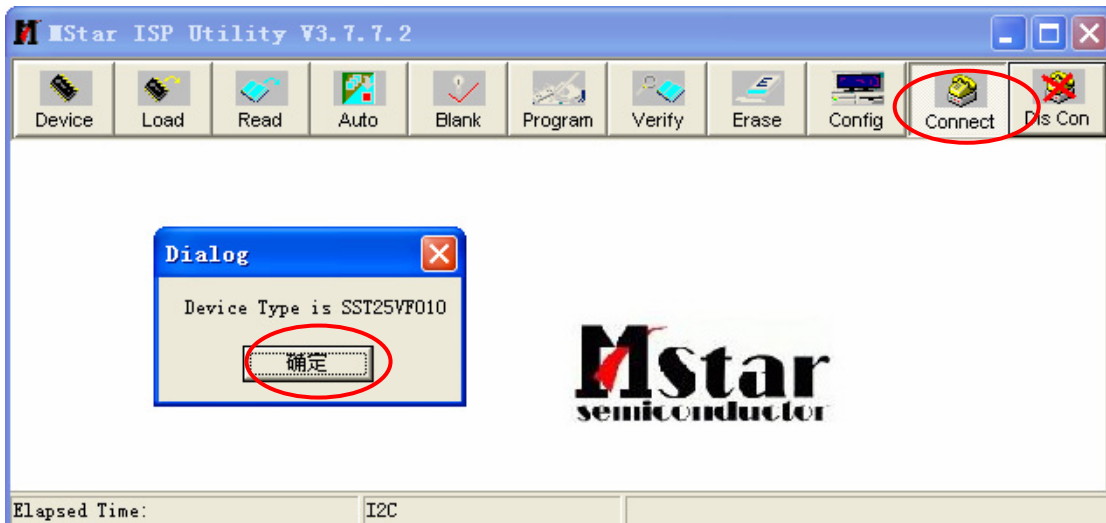

Fig.2
Step 1: Double click the ISP\_Tool v3.772.exe  icon and click Connect, bring up Fig.2